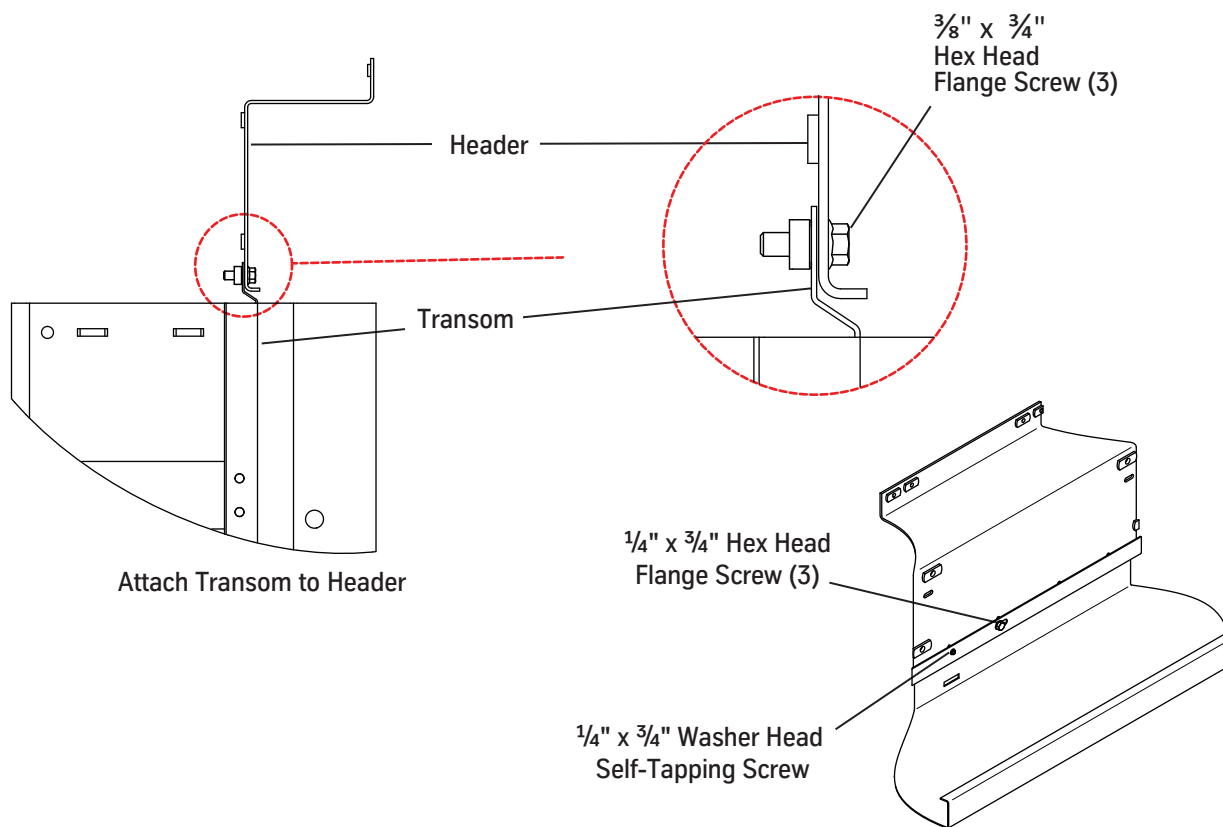

Figure 33 - Attach the Transom to the Header
1. Attach the transom to the header. See Figure 33.